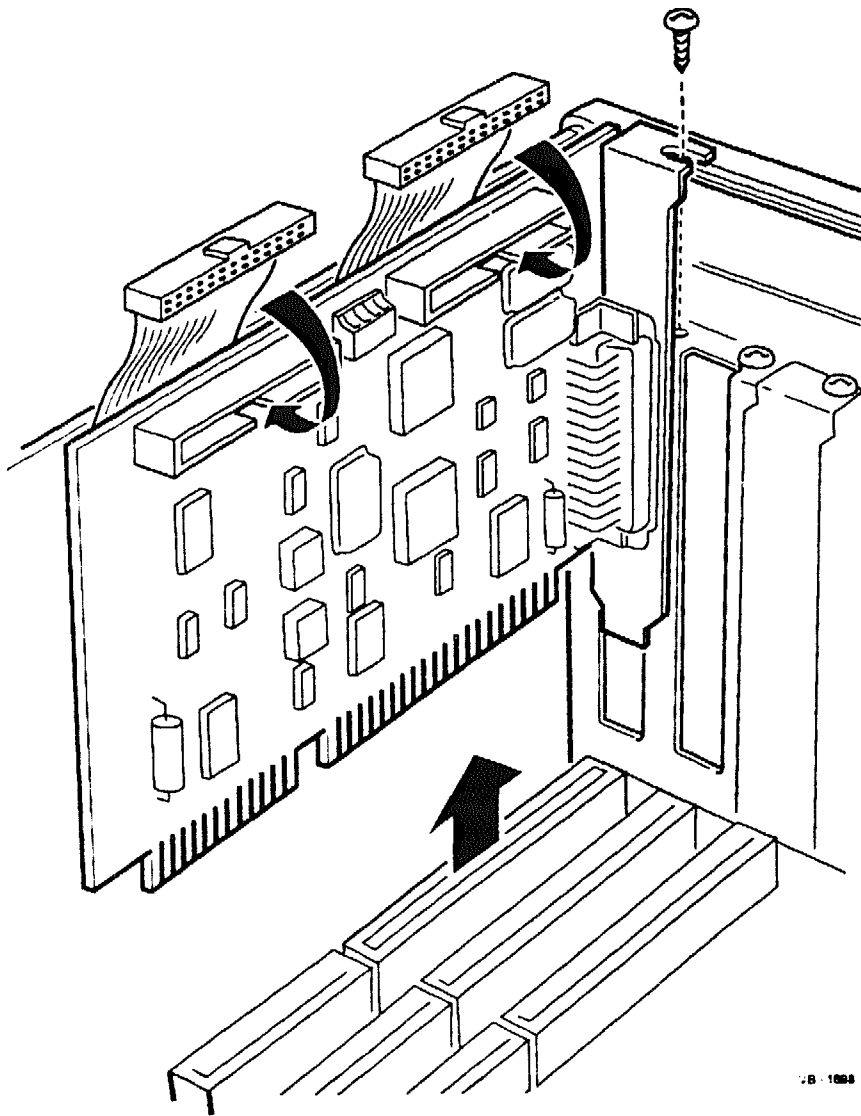

Figure 5-13 Removing the Combination Controller Board
2. Disconnect the floppy and hard disk drive cables attached to the combination controller board (Figure 5-13).
3. Remove the screw that secures the board retaining bracket to the expansion slot (Figure 5-13).
4. Remove the combination controller board from the bus expansion board (Figure 5-13).